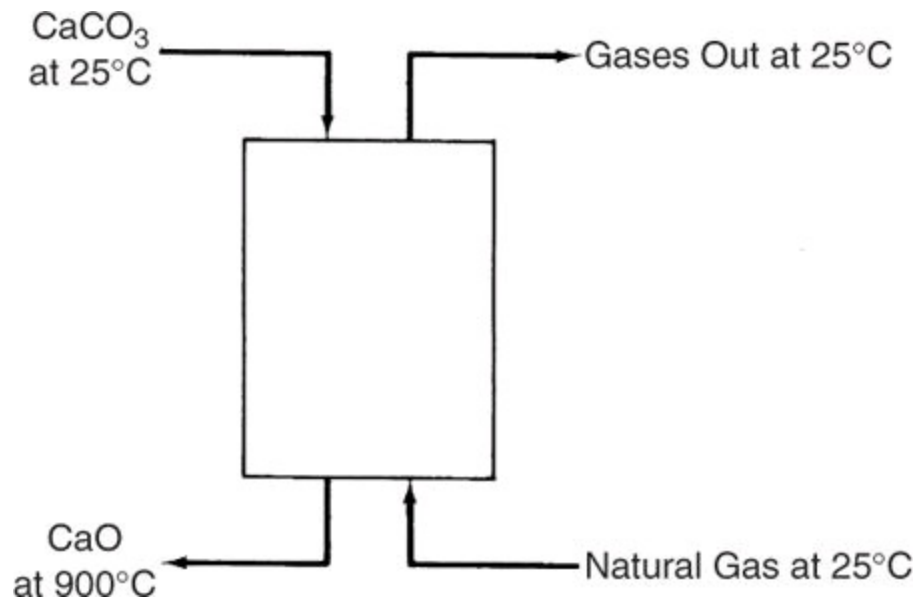

Figure P16.5
16.5. Limestone (CaCO_3) is converted into CaO in a continuous vertical kiln (see Figure P16.5). Heat is supplied by combustion of natural gas (CH_4) in direct contact with the limestone using 50% excess air. Determine the kilograms of CaCO_3 that can be processed per